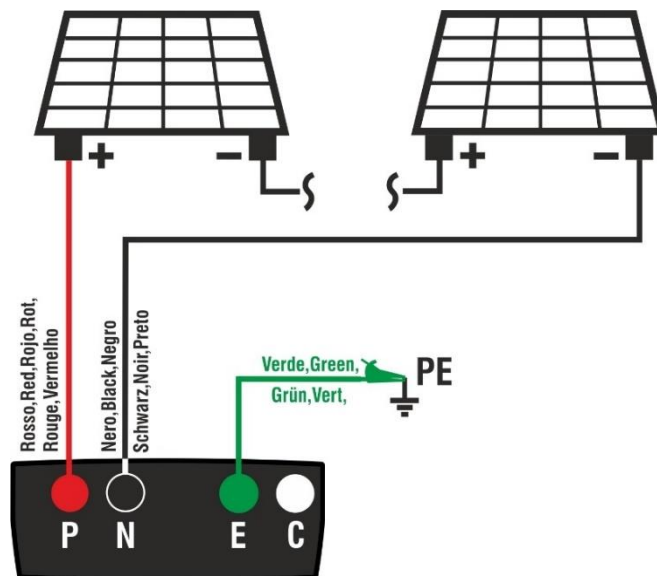

Fig. 9: Instrument connection for insulation measurement in GFL mode
8. Connect the instrument to the PV string to be tested as shown in Fig. 9. **Please remember that it is also necessary to separate possible overvoltage protections connected to the cables of the string, and that it is recommended to measure upstream of possible blocking diodes.**